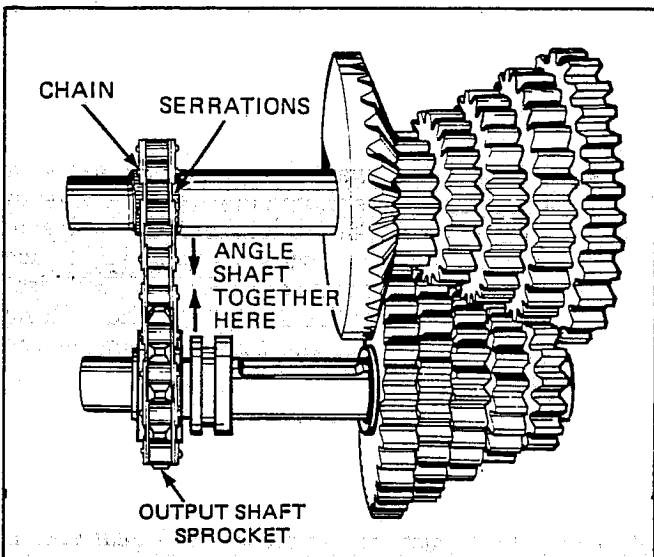

Figure 2-53
5. Install chain over two shafts registering chain on output shaft sprocket and in-line with serration on countershaft. See Figure 2-53. Be sure collar on sprocket faces shifting keys and collar.